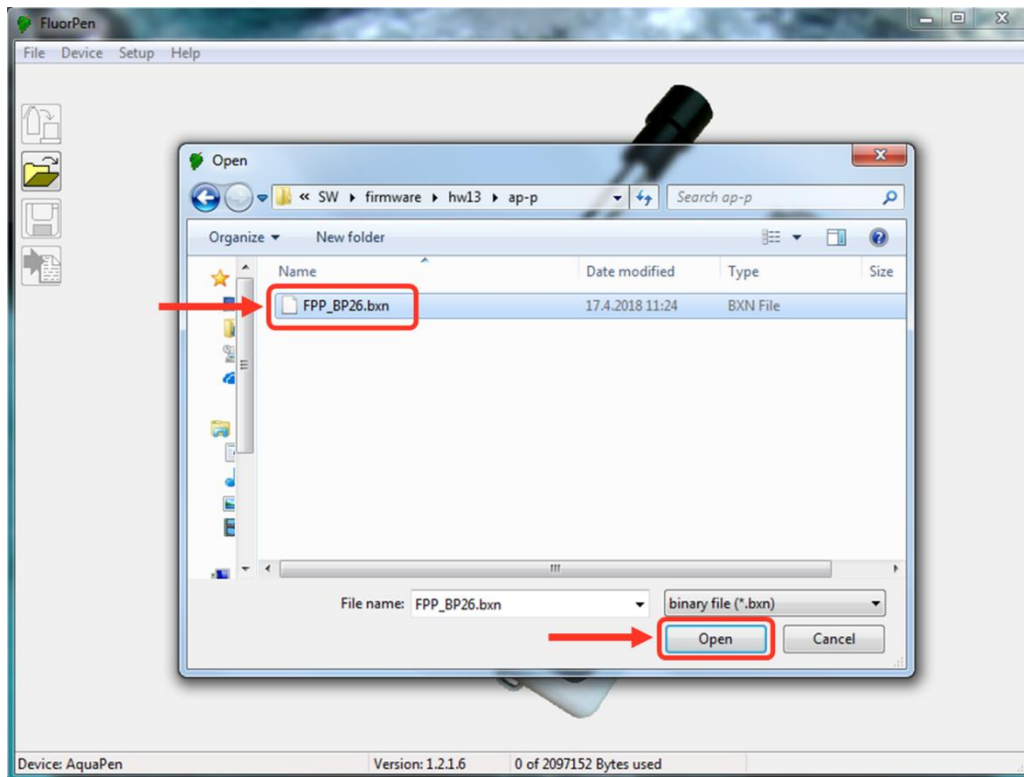

Fig. 21 Select .bxn file.
- Find: firmware update file: Binary file (with the extension .bxn) (Fig. 21).